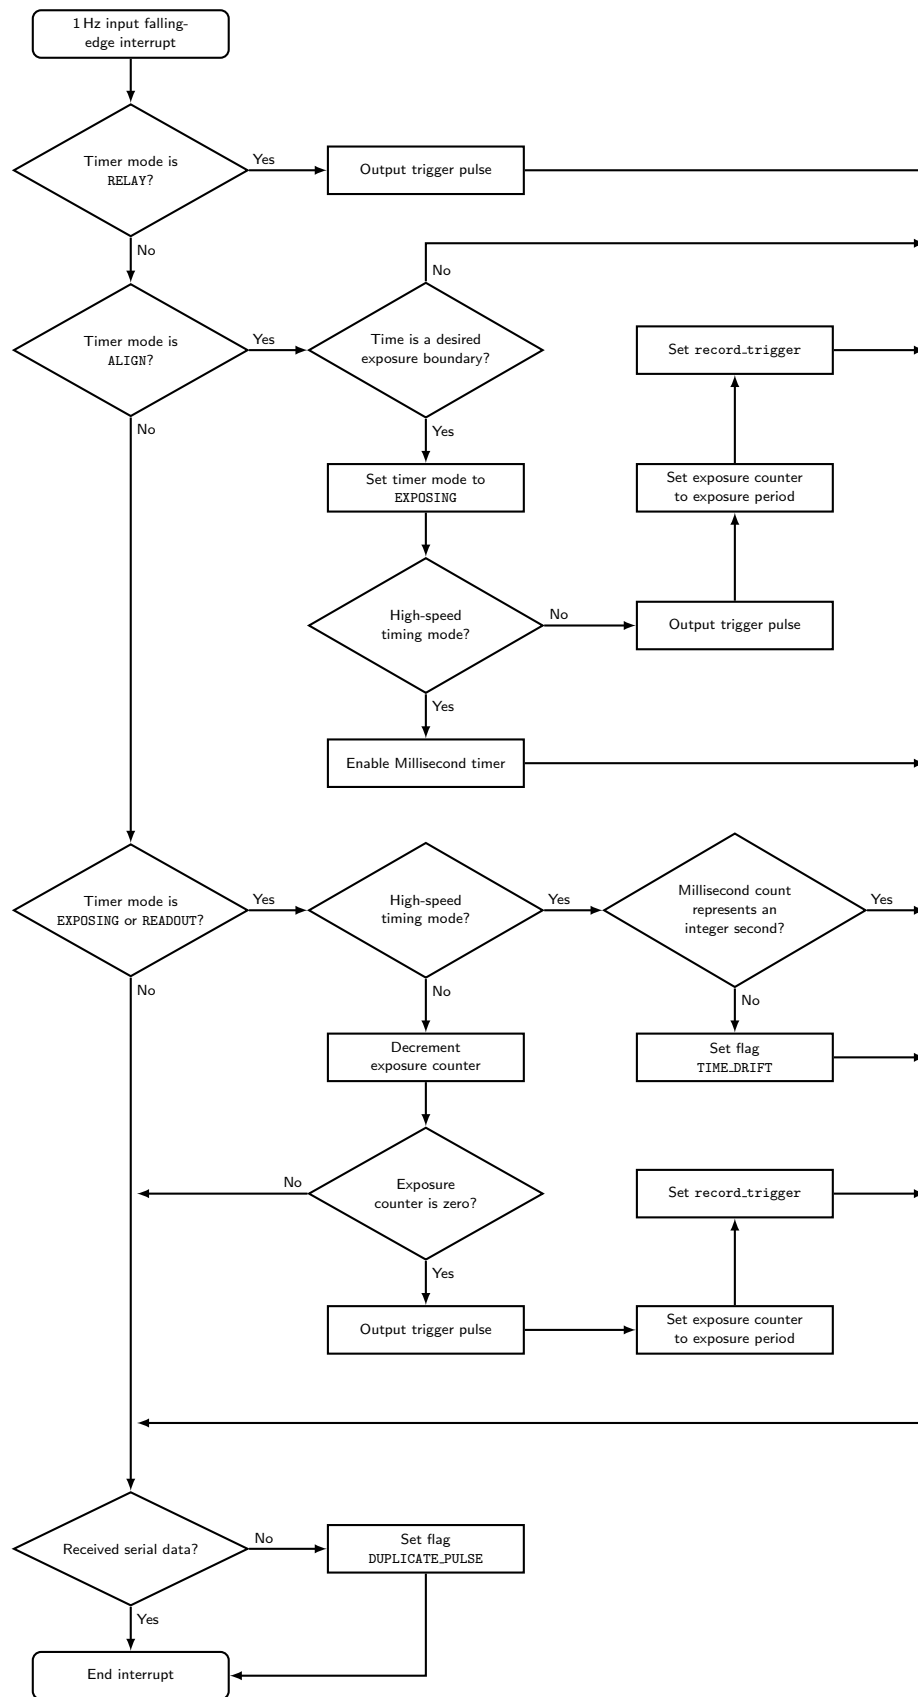

Figure A.4: A pulse on the 1 Hz input line triggers different actions depending on the current timer mode. See text for details.
- A hardware interrupt on the falling edge of each 1 Hz input pulse (Figure A.4 and explained below).